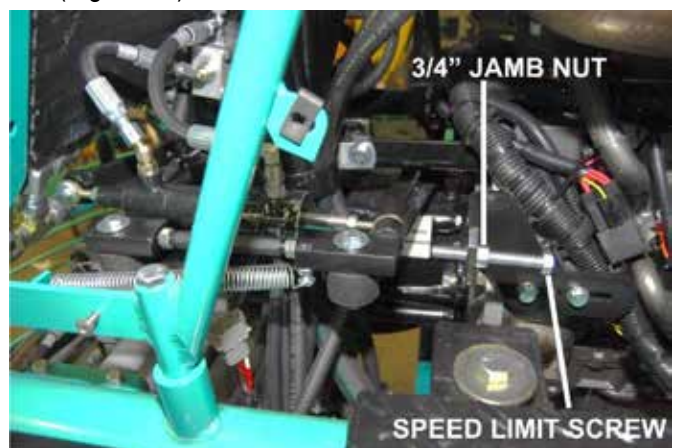

Figure 32. Left Side Trowel Speed Adjustment
- Adjust speed limit screw and tighten jamb nut (Figure 32).